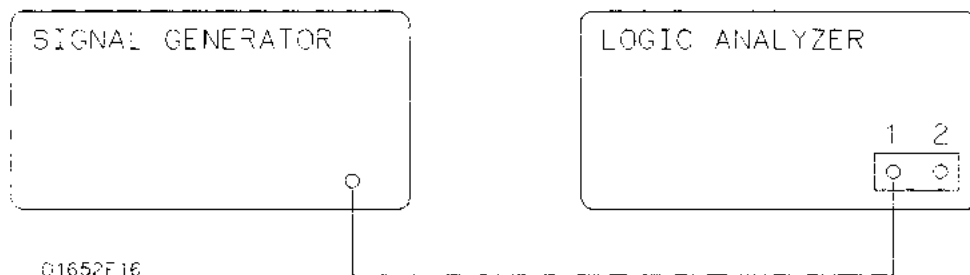

Figure 3-58. Setup for Time Measurement Accuracy
1. Use a Type N to BNC adapter to connect the signal generator to the channel 1 input of the HP 1652B/1653B oscilloscope as in figure 3-58.